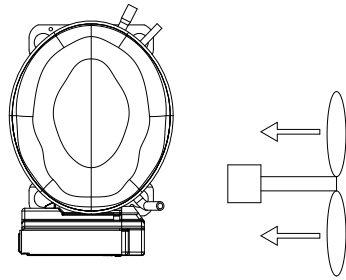

Figure 3.25: Option 1
- The electronic Inverter must be installed in the vertical position. Refer to Figures 3.25 till 3.28 or 3.29 till 3.34 for recommended assembling positions.
Acceptable positions for the fan, compressor, and inverter are illustrated in Figures 3.25 to 3.28.